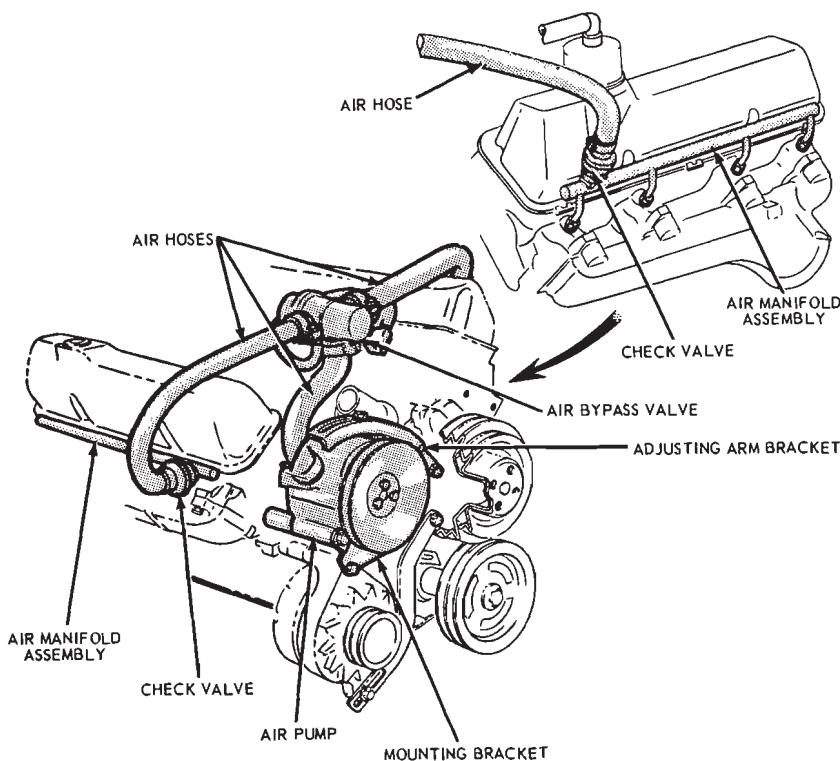

FIG. 5—Thermactor Exhaust Emission System Installation
2. If adjustment is necessary, loosen the air pump mounting and adjusting arm bolts (Fig. 5). Move the air pump toward or away from the engine until the correct tension is obtained. Use a suitable bar and pry against the pump rear cover to hold belt tension while tightening the mounting bolts. **Do not pry against the pump housing.** Remove the gauge. Tighten the air pump adjusting arm and mounting bolts. Install the tension gauge and check the belt tension.
1. Loosen the air supply pump adjusting arm bolt (Fig. 5). Loosen the air supply pump to mounting bracket bolt, and push the air pump towards the cylinder block. Remove the drive belt.
1. Disconnect the air and vacuum hoses at the air bypass valve body (Fig. 5), and remove the valve.